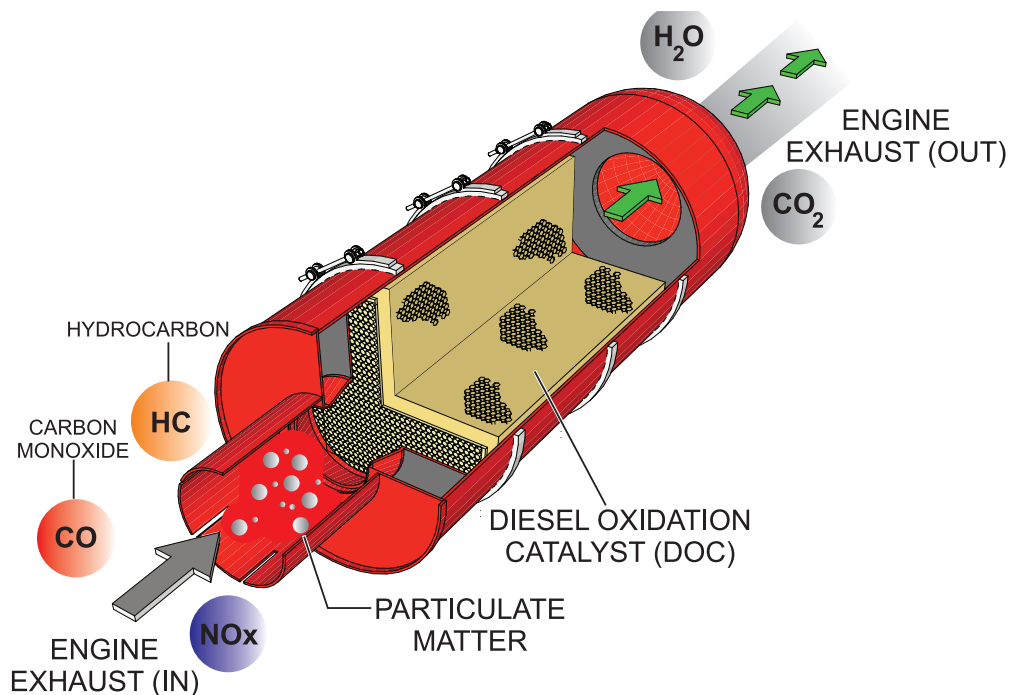

Figure 139. Diesel Oxidation Catalyst (DOC)
The **DOC device** (Figure 139) helps filter out large amounts of harmful nitrogen oxides (NOx) and particulate matter (PM) which are emitted by diesel engines. These exhaust emissions pose serious environmental and health risks. It is important to maintain and service the DOC emission safety device on a periodic basis.